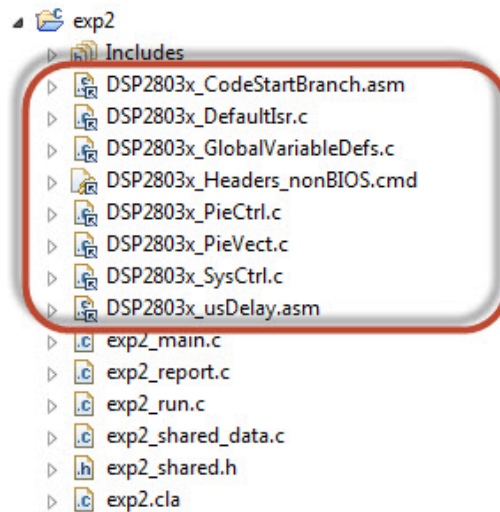

Figure 5.5: Common source files for each CLA example
- Import the `exp2` project into your workspace (see Fig. 5.5).